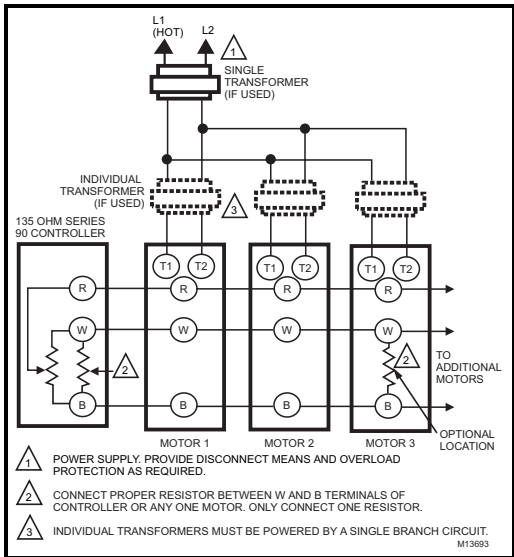

Fig. 1—Applying resistor to Modutrol motors in unison control.
2. Place selected resistor across W and B terminals as in Fig. 1.